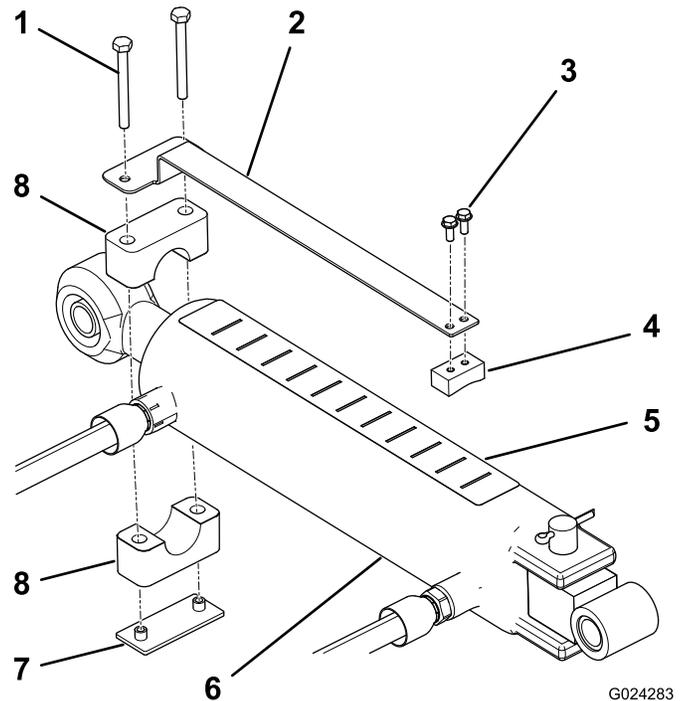

Figure 9
- Mount the depth gauge to the flat side of the slide block with two #10 x 1/2 inch machine screws, positioning the components as shown in Figure 9.
2. Using the tube clamp, weld plate and two 1/4 x 2-1/2 inch screws, loosely mount the depth gauge to the rod end of the top link cylinder (Figure 9). Make sure the clamps are loose enough to allow them to be rotated to the desired position.
4. Affix the depth decal to the top of the cylinder at a location that is visible to the operator and does not interfere with hydraulic hoses or other obstructions (Figure 9). The end of the decal with the letter "J" is to be positioned toward the aerator.